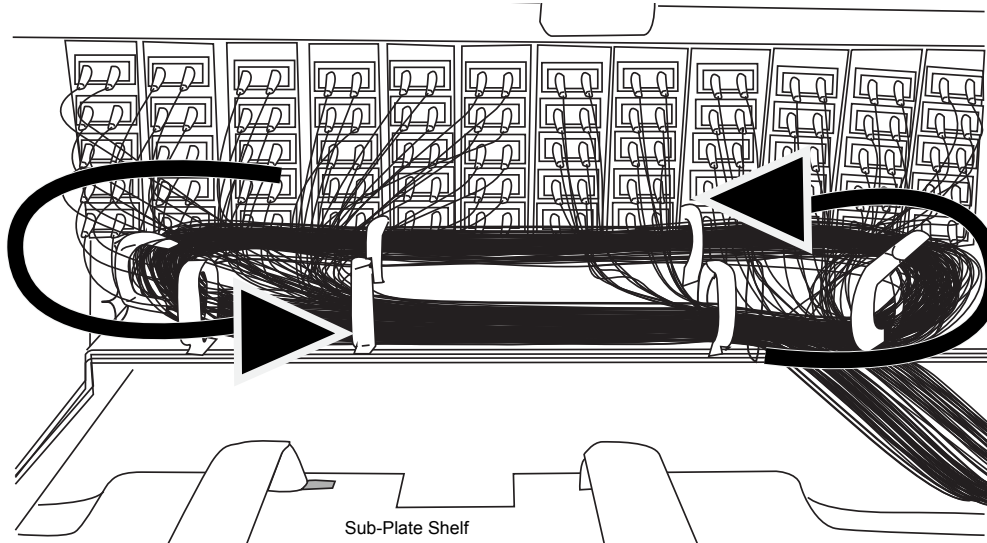

Figure 10
**Step 6:** Store pigtail slack in routing clips behind the adapter panels as shown in Figure 10.